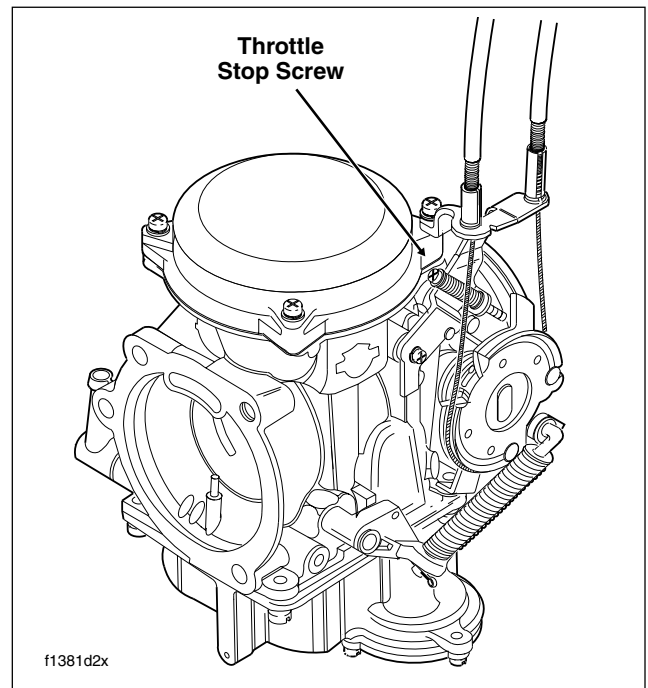

Figure 1-24. Idle Speed Adjustment
1. See Figure 1-24. With the engine at normal operating temperature and the enricher all the way in (enricher valve closed) adjust the throttle stop screw so the engine idles at 950-1050 rpm.